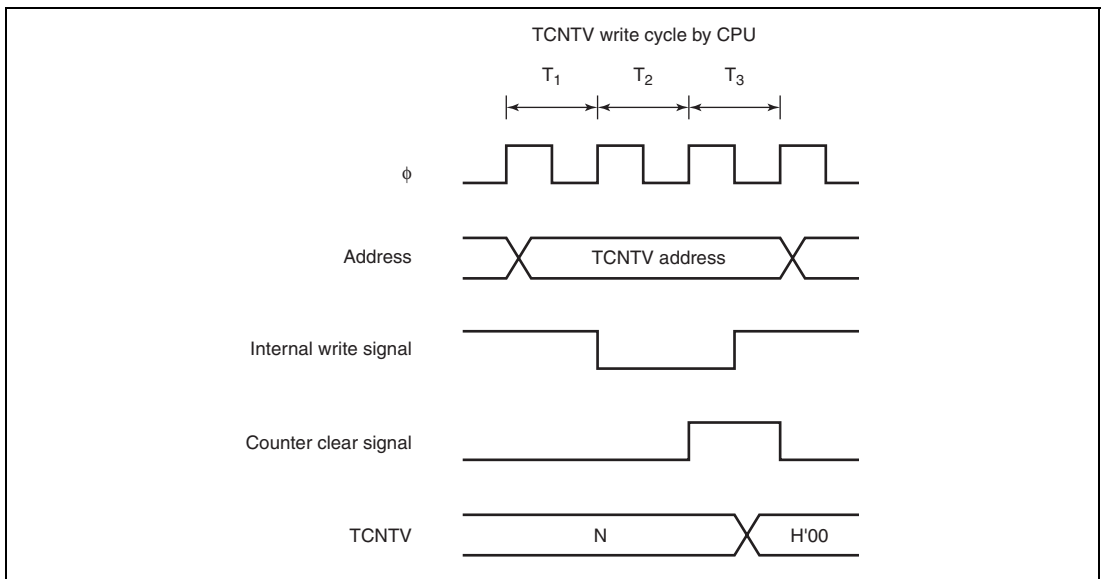

Figure 10.11 Contention between TCNTV Write and Clear
1. Writing to registers is performed in the T3 state of a TCNTV write cycle. If a TCNTV clear signal is generated in the T3 state of a TCNTV write cycle, as shown in figure 10.11, clearing takes precedence and the write to the counter is not carried out. If counting-up is generated in the T3 state of a TCNTV write cycle, writing takes precedence.